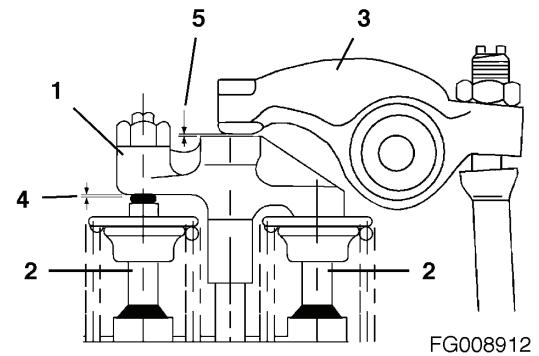

Figure 158
The 4-valve cylinder head operates two valves with a single rocker arm by employing a valve bridge (1, Figure 158) between the two valves (2, Figure 158). Clearance (4, Figure 158) between the valve bridge and valves must be set before adjusting the clearance (5, Figure 158) between the rocker arm (3, Figure 158) and valve bridge.
3. Make sure there is clearance (5, Figure 158) between the valve bridge (1, Figure 158) and the rocker arm (3, Figure 158).